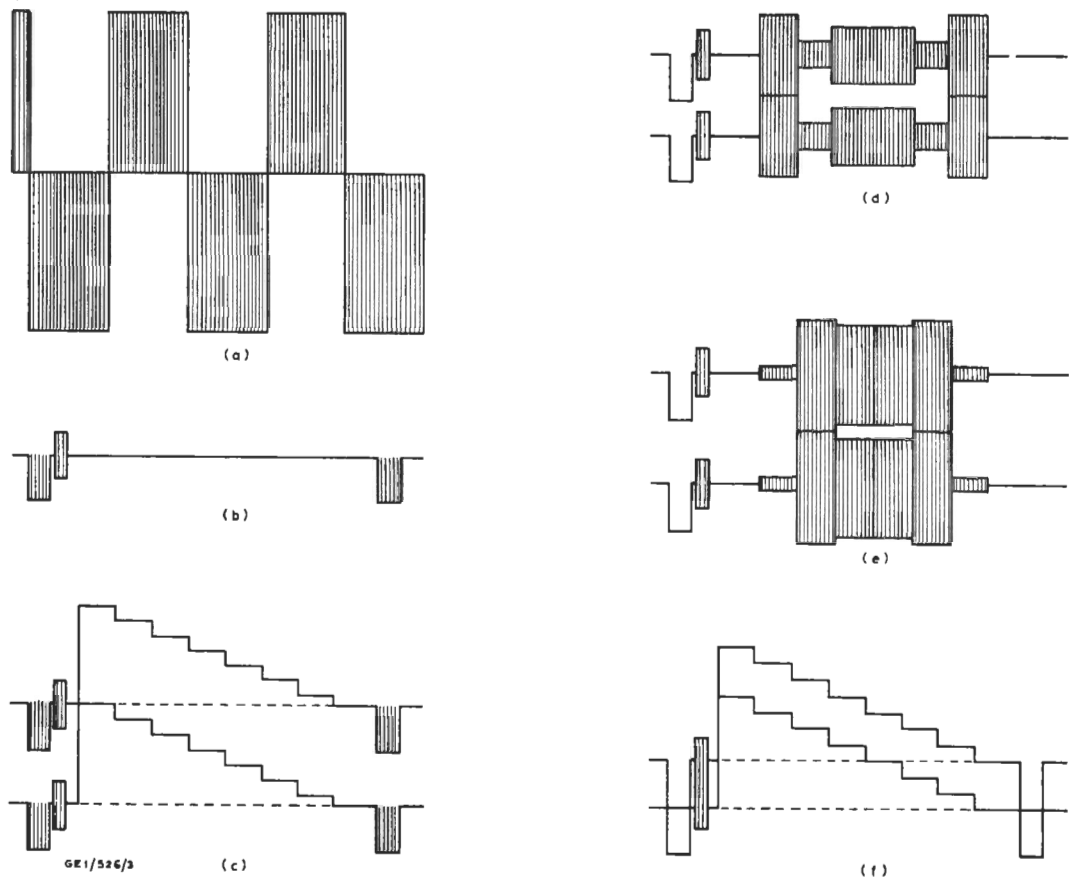

Fig. 5 Calibration Waveforms
Set the oscilloscope sensitivity to 50 mV/cm and adjust the oscilloscope-equaliser control to obtain the display shown in Fig. 5(a), indicating that the response of the oscilloscope at 4.43 MHz is correct.
Set the *Luminance* switch of the luminance unit to *Bars Off* and the *Chrominance* switch of the chrominance unit to *Off*. The display shown in Fig. 5(b) should be obtained.
Set the *Chrominance* switch of the chrominance unit to *B-Y* and check that the display of Fig. 5(b) is still obtained, with a residual subcarrier component of less than 5 mV p-p. If not, adjust the *B-Y white balance* control in the UN18/503.
4. Set the *Chrominance* switch to *R-Y* and check that the display of Fig. 5(b) is still obtained,
The display of Fig. 5(c) should be obtained. Check that the luminance amplitude is correct to within 10 mV. (This is represented by 5 mV on the display). If not, adjust *Luminance Amp* in the UN19/502.
Adjust the *Chrominance Amplitude* control of the chrominance unit to obtain the display of Fig. 5(d) correct to within 5 mV.
Adjust the *R-Y Gain* control of the chrominance unit to obtain the display of Fig. 5(e) correct within 5 mV.
Adjust the *Sync. Amp.* control of the luminance unit and the *Burst Amplitude* control of the power and subcarrier processing unit to obtain the display of Fig. 5(f).